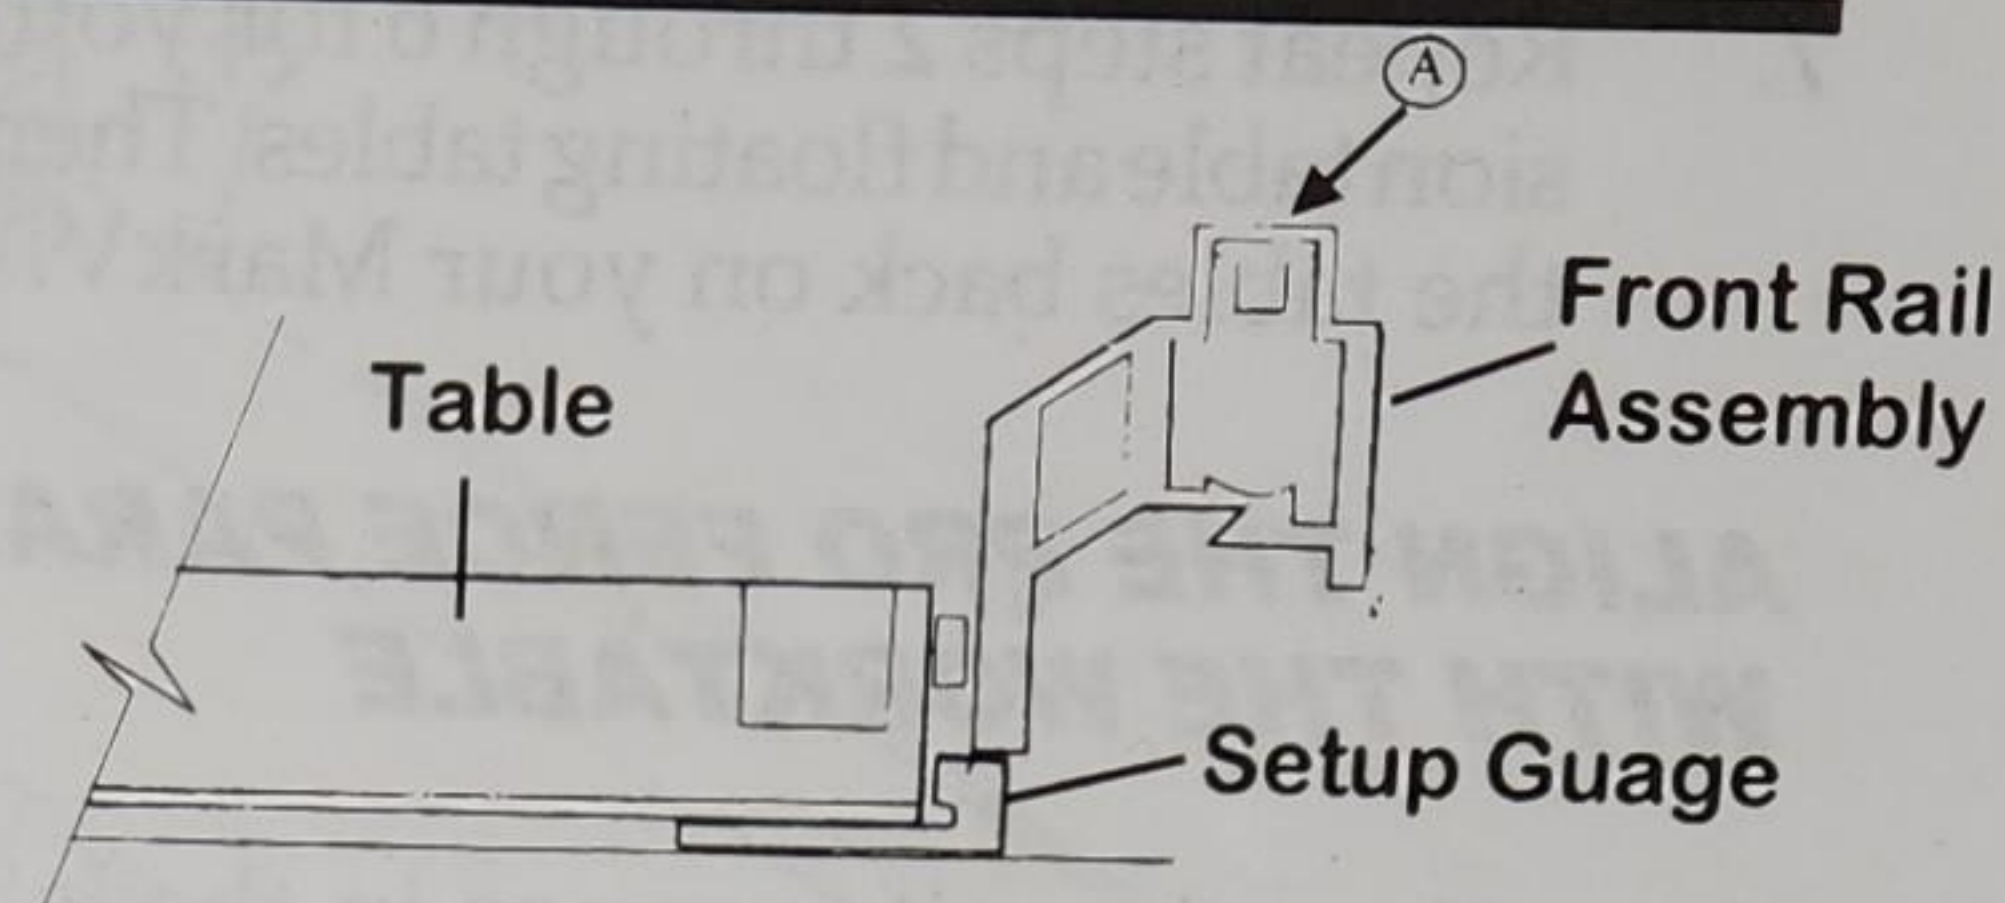
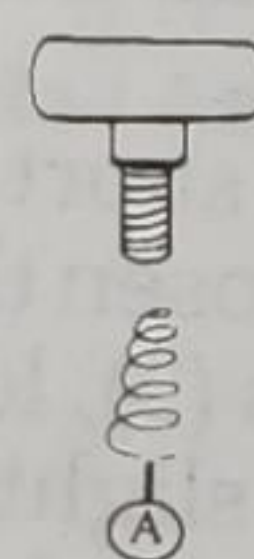

Figure A-1
Figure A-2
2. With your table upside down on a flat smooth surface, slide the setup gauge (25) under the front edge of the saw table near the table's center, the thick part should stick out from under the front and up toward the underside of the table (See Figure A-1).
3. Insert the flat head screws (23) through the front rail assembly (17) from the front, slide the spacer (24) on the screw and slide the screws through the tube mounting holes in the table.
4. Place the flat washer (120392) on the screw and then the keps nut (515294). Finger tighten only. Make sure the setup gauge (25) is flat against the surface of your table and against the front rail assembly and tighten nuts securely.
5. Slide the small diameter end of the spring (22) over the knob (21) (See Figure A-2). Thread the knob with the spring into the threaded inserts near each end of the rail assembly (Marked A in Figure A-1).
6. Repeat steps 2, 3, 4, and 5 for the rear rail assembly (19) on the main saw table.